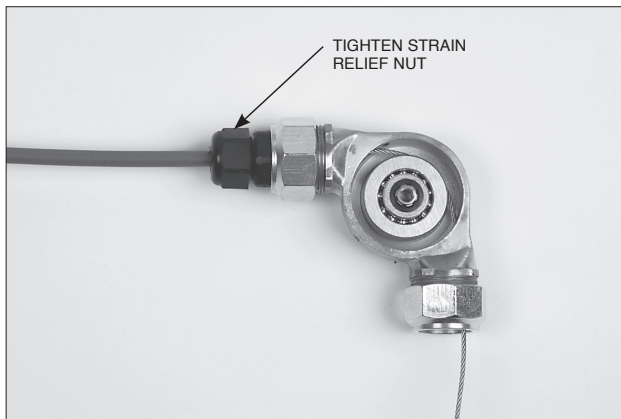

FIGURE 5-69
8. Tighten the strain relief nut onto the strain relief. See Figure 5-69.